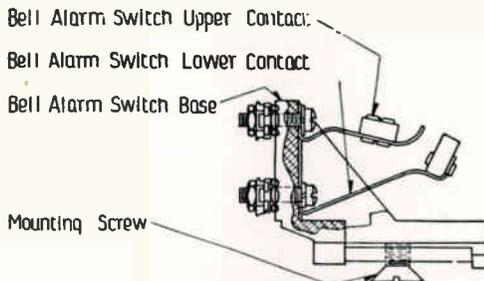

FIG. 24—BELL ALARM SWITCH
**Bell Alarm Switch (Fig. 24)**—The bell alarm switch only makes contacts when the handle is drawn down with the circuit-breaker open as would be the case if tripped by any attachment. The upper block is depressed by the handle side bars and the lower block by the tripping lever. It should be examined occasionally to make sure that the contacts and all connections are secure.